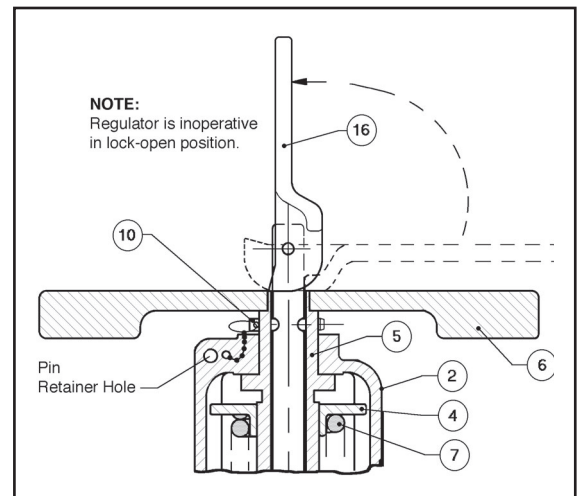
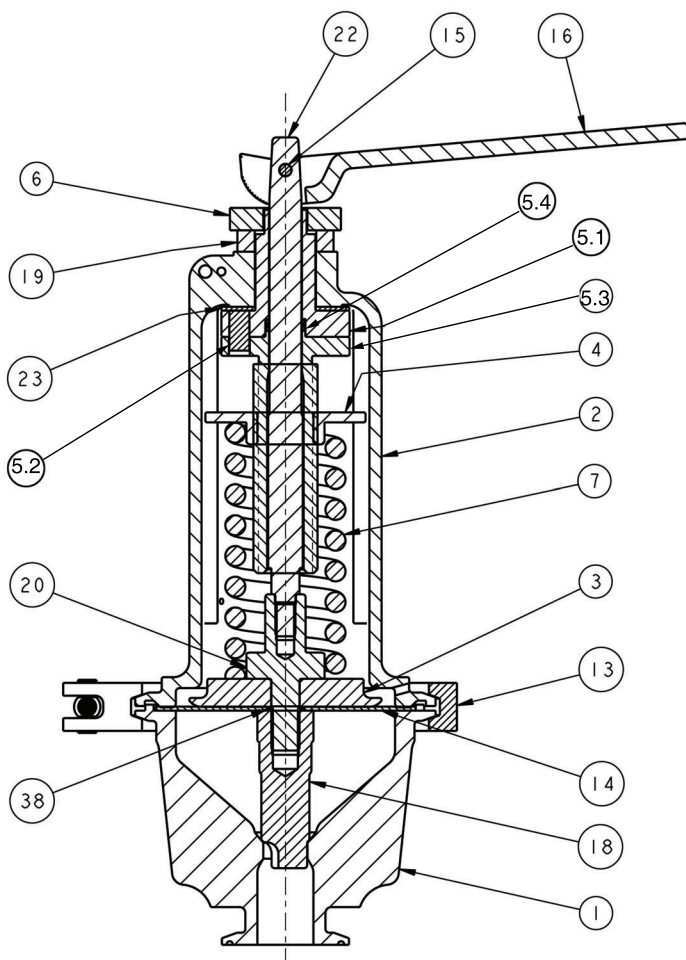

Figure 2: Spring Chamber in Lock-Open Position.
**Figure 3:** Stem seals - See Figures 4 & 5.
2. Refer to Fig. 3 and 4 for item number reference().
3. Lift lever (16) to vertical position. **NOTE:** Do not change range spring (7) setting by rotating adjustment nut (6) or handle (36).
4. Remove the lock-open pin (10) from the pin retainer hole in the spring chamber (2) and insert it into drilled passage through the adjusting screw (5). (See Figure 2.)